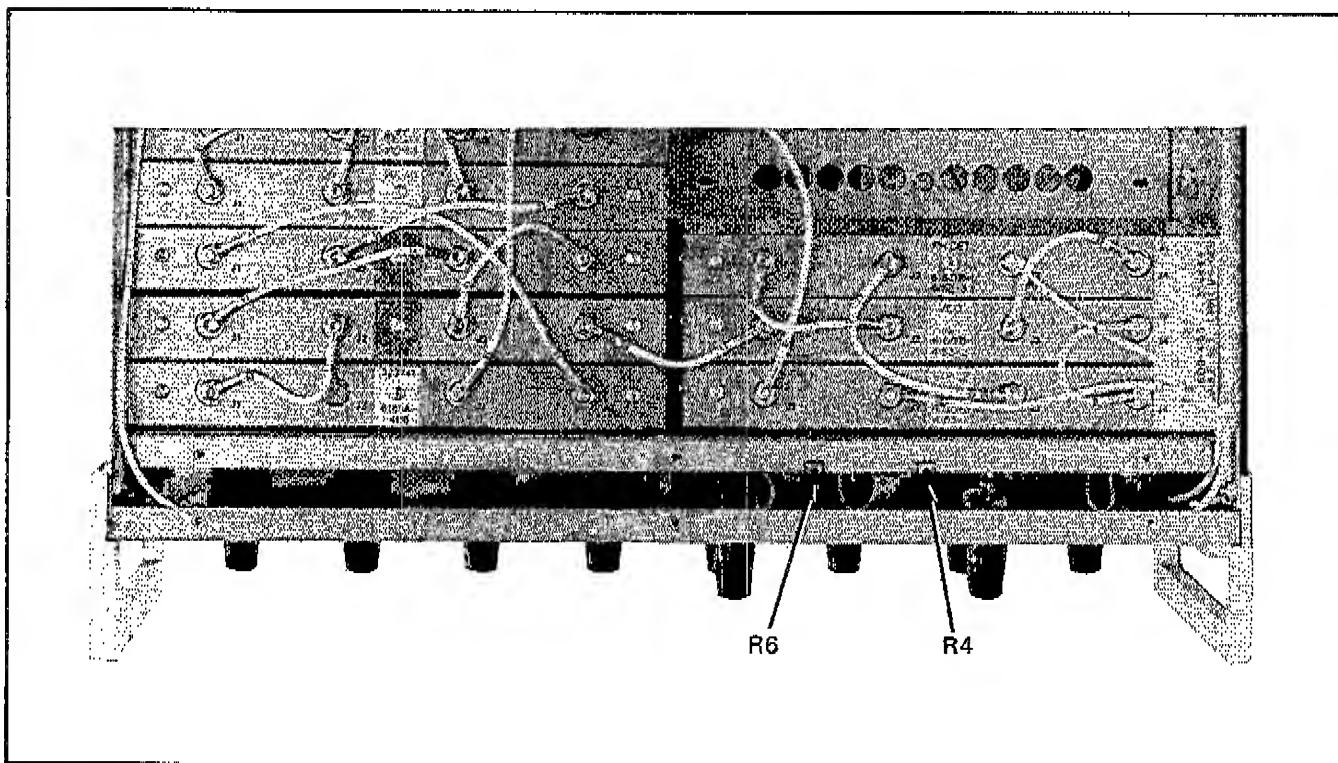

Figure 4-4. OUTPUT LEVEL ADJUSTMENTS
- f. Rotate highest frequency dial through positions 1 to 12 and observe that rf voltmeter indicates +3 dBm \pm 1 dB. If necessary, adjust R6 (refer to Figure 4-4 for location).
- c. Rotate highest frequency dial through positions 1 to 15 and observe that indication on rf voltmeter is +13 dBm \pm 1 dB. If necessary, adjust R4 (refer to Figure 4-4 for location).